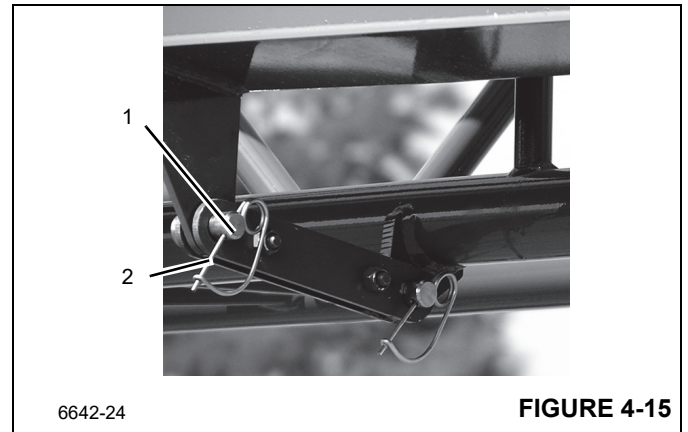

FIGURE 4-15
4. Remove retainer clip (2, Figure 4-15) and remove pin (1)